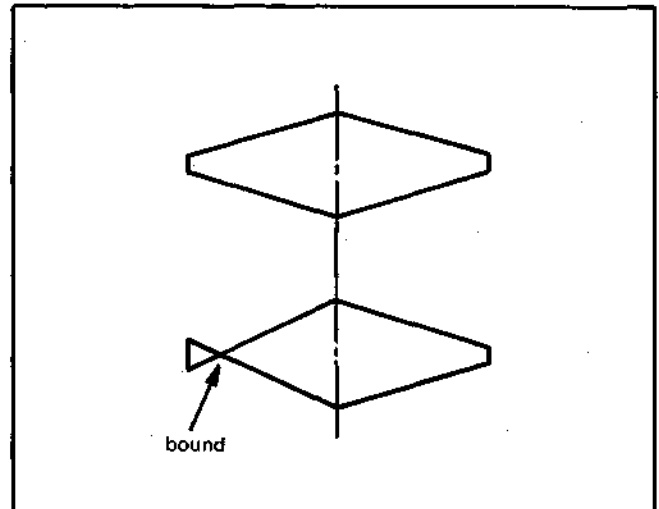

Fig. 3-17 RVS waveform
11) Put into RVS mode, turn the tracking control knob, and check that there is no bound when the peak of the peak waveform is in the center of the synchroscope. (Fig. 3-17) If there is, readjust starting from 1).